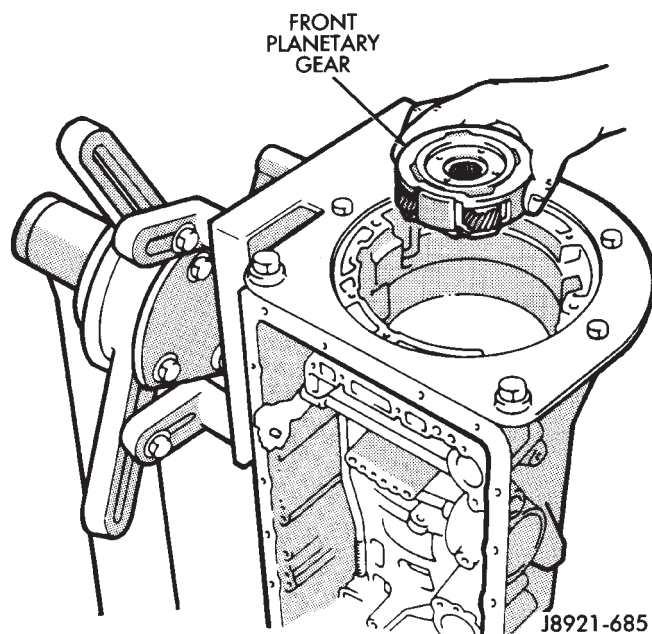

Fig. 18 Installing Front Planetary Gear
(23) Install front planetary gear on sun gear (Fig. 18).